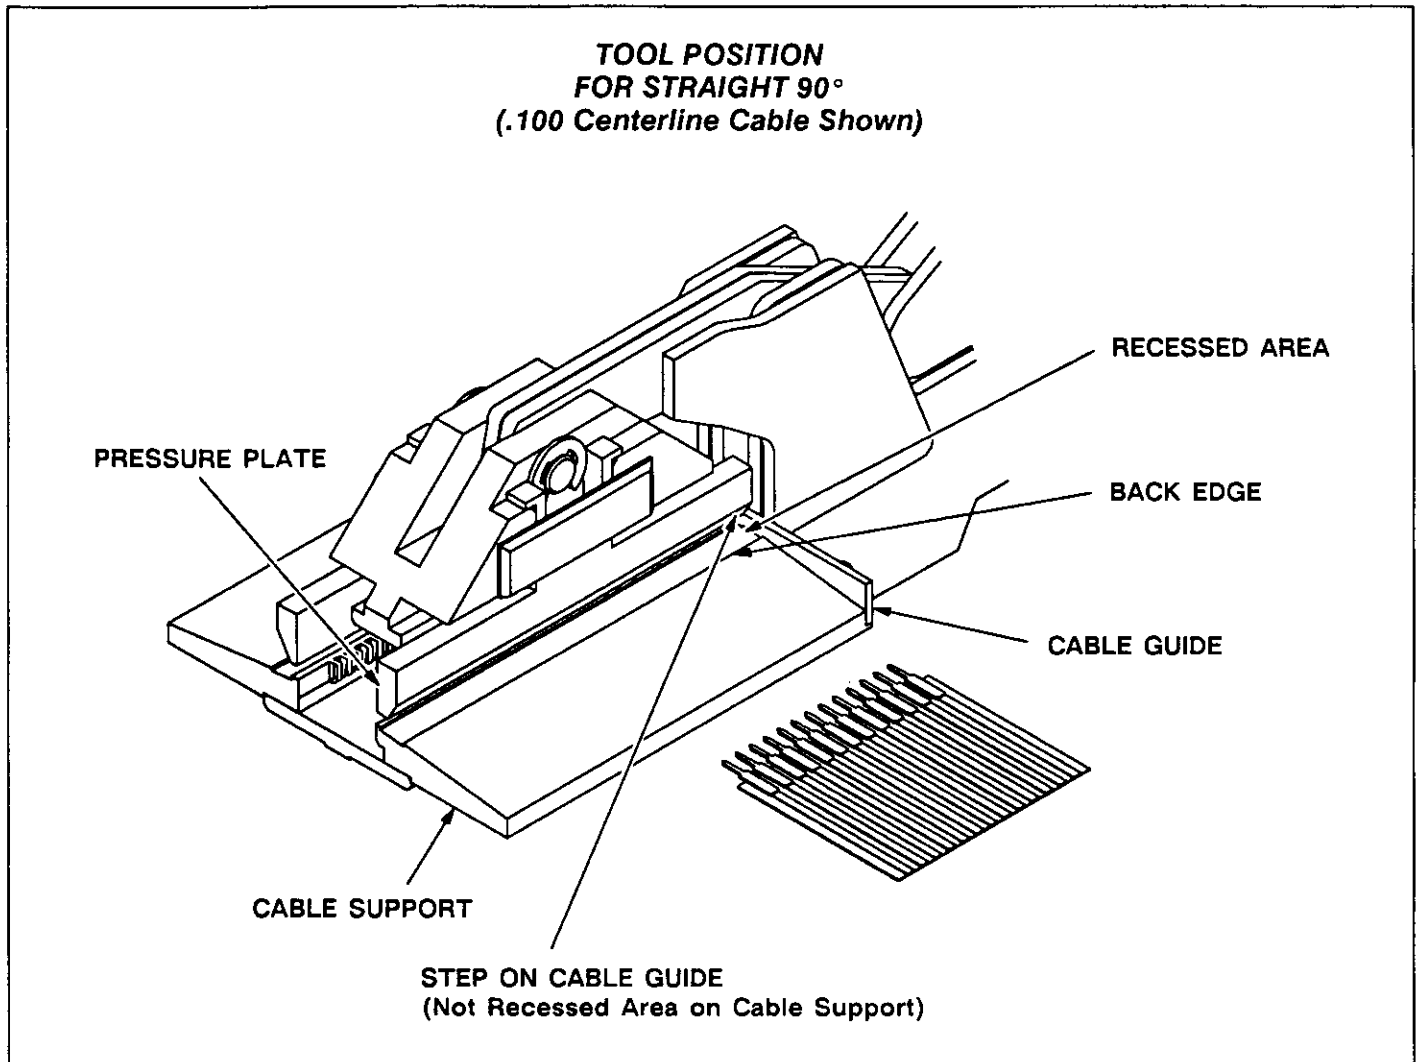

Fig. 7
B. .050 Centerline Cable, Straight 90° (Figure 7)
C. .100 Centerline Cable, Straight 90° (Figure 7)